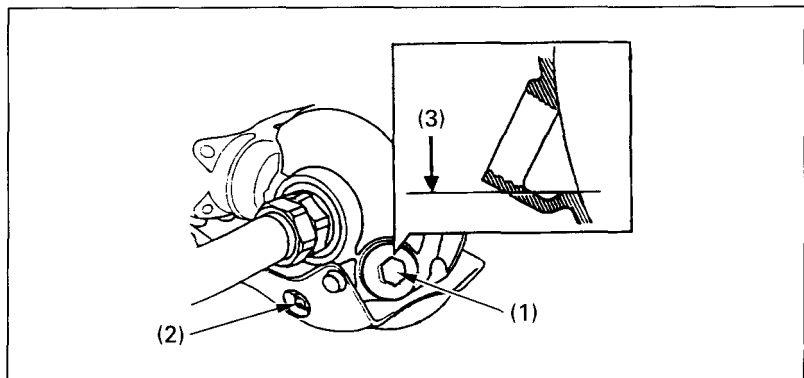

Fig. 4-15 (1) Oil filler cap
1. To drain the oil, first place an oil drain pan under the oil drain plug (Fig. 4-15).
2. Remove the oil filler cap (1) and the drain plug (2).